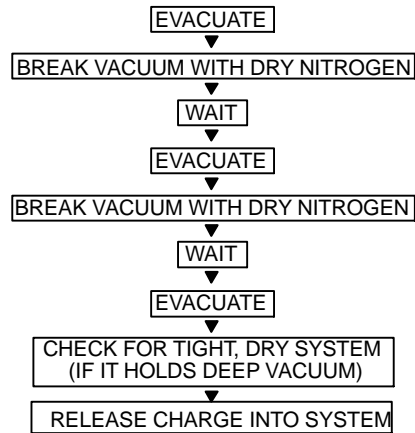

Fig. 25 – Triple Evacuation Method
The triple evacuation method should be used. Refer to Fig. 25 and proceed as follows:
- 5 Repeat this procedure as indicated in Fig. 25. System will then be free of any contaminants and water vapor.